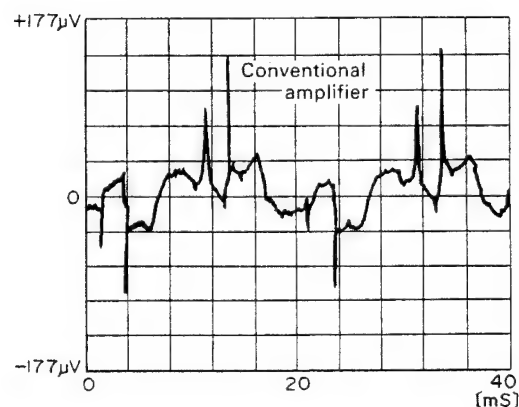

Fig. 7
3. Power supply noise which occurs in the amplifying stage is greatly reduced when compared to that of a conventional amplifier (shown in Fig. 7).